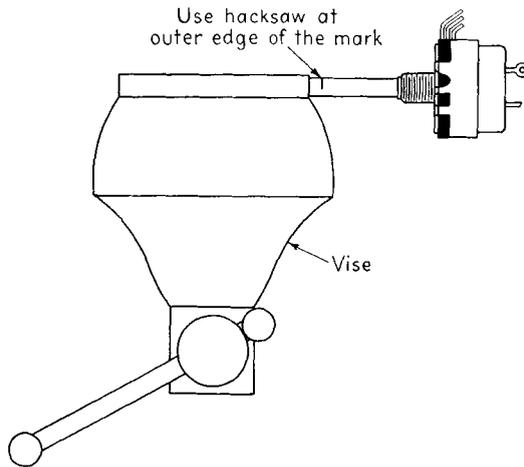

FIG. 11-12. Cutting the volume-control shaft to size.
- b. Clamp excess portion in vise with mark showing and cut to the mark with a hack saw, as shown in Fig. 11-12.